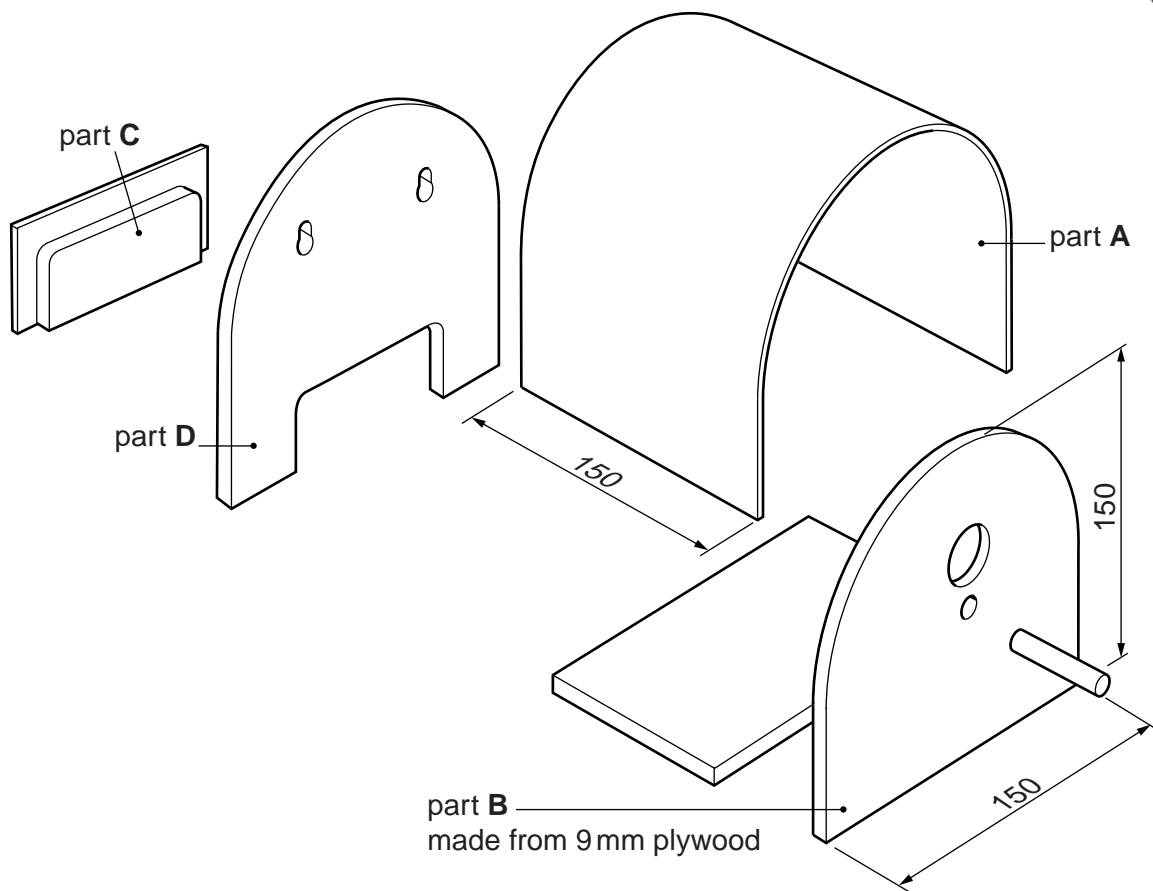

Fig. 3
- 3 Fig. 3 shows a bird's nestbox which is to be made in a school workshop.